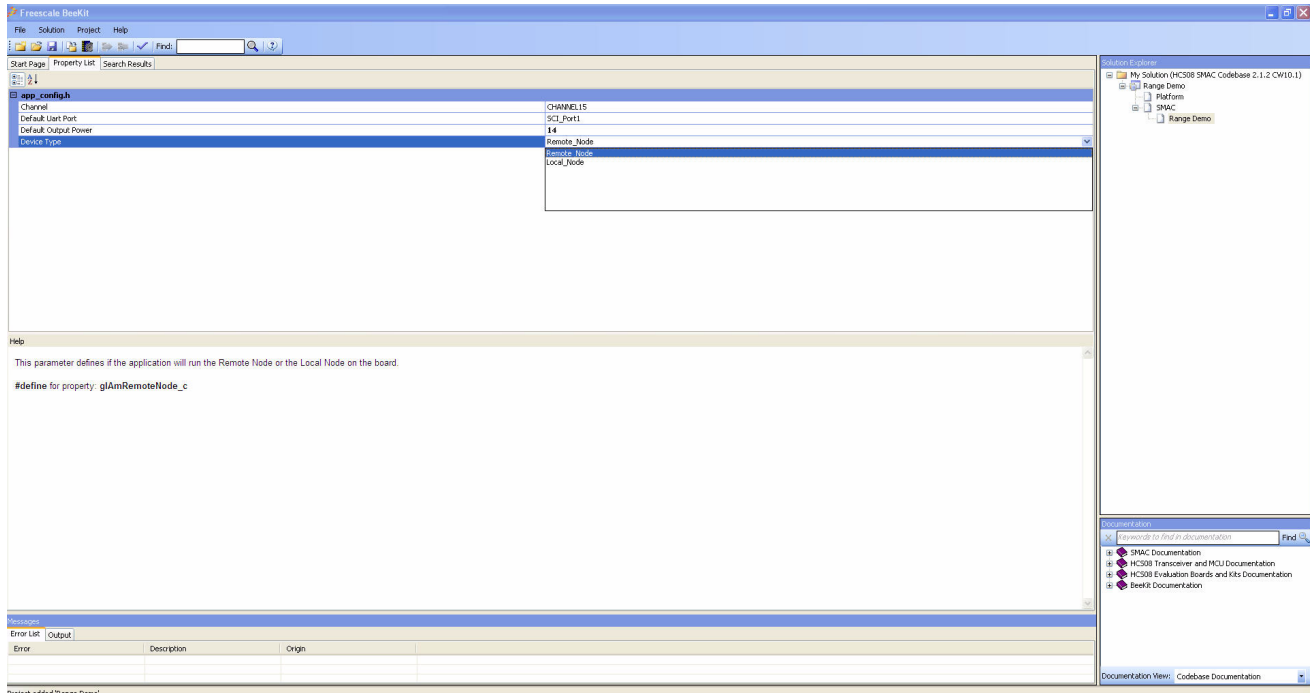

Figure 7-2. Node Selection in BeeKit
2. Ensure that Remote_Node is selected for one board and Local_Node for another board from the “Device Type” option in BeeKit as shown in Figure 7-2.